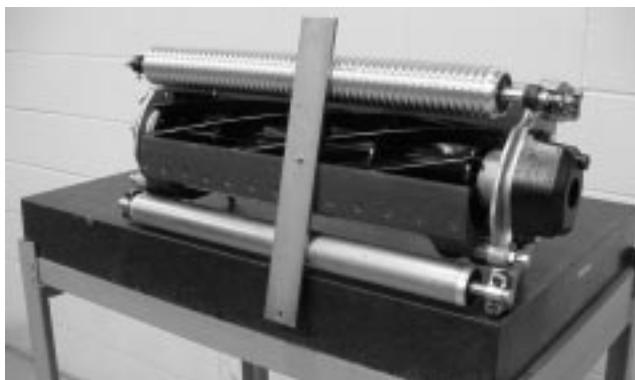

Figure 15
- Hook screw head on cutting edge of bedknife and rest rear end of bar on rear roller (Fig. 15).